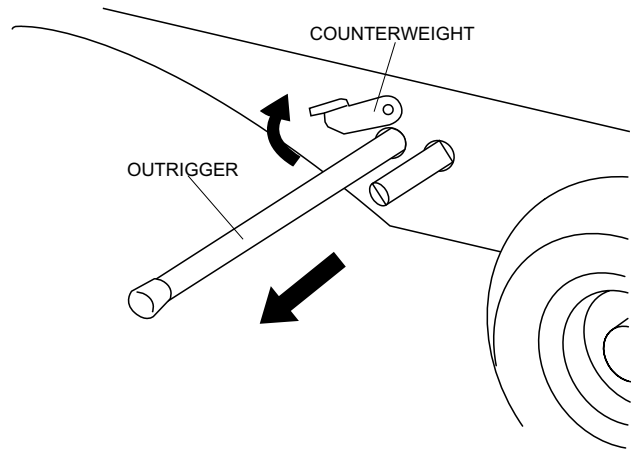

Figure 14. Deploying Outrigger
1. Pull up the counterweight that holds the outrigger in place and pull the outrigger all the way out. See Figure 14.